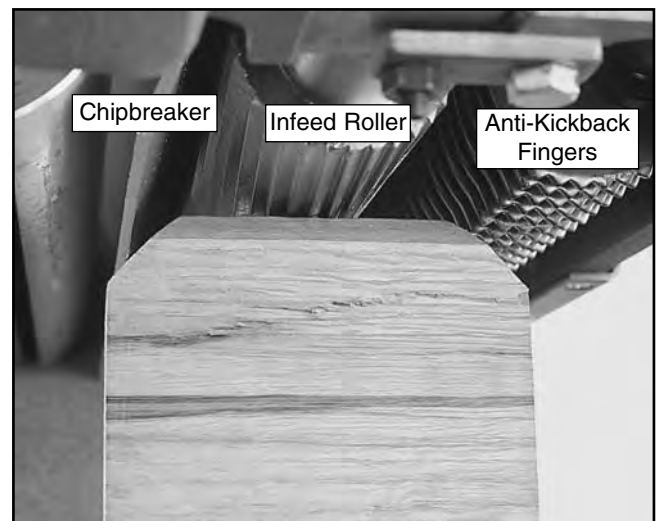

Figure 19. Feed roller height inspection.
3. Raise the table until the gauge block barely touches the infeed roller. See **Figure 19**. Do not change position of the table.